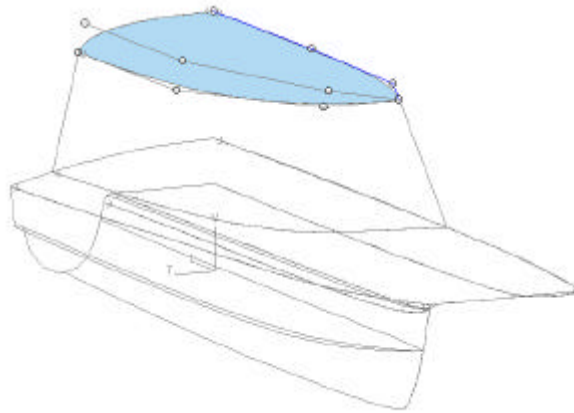

Figure 3-15: Housetop surface
12. Create a new surface: (See Figure 3-15.)